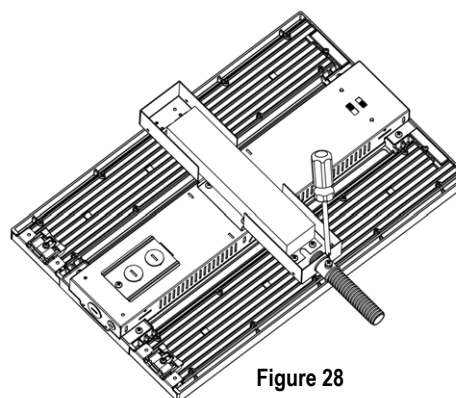

Figure 28
4. After passing the wire through the straight head and the metal hose, fix the hose on the straight head and lock it. (see Fig. 28)